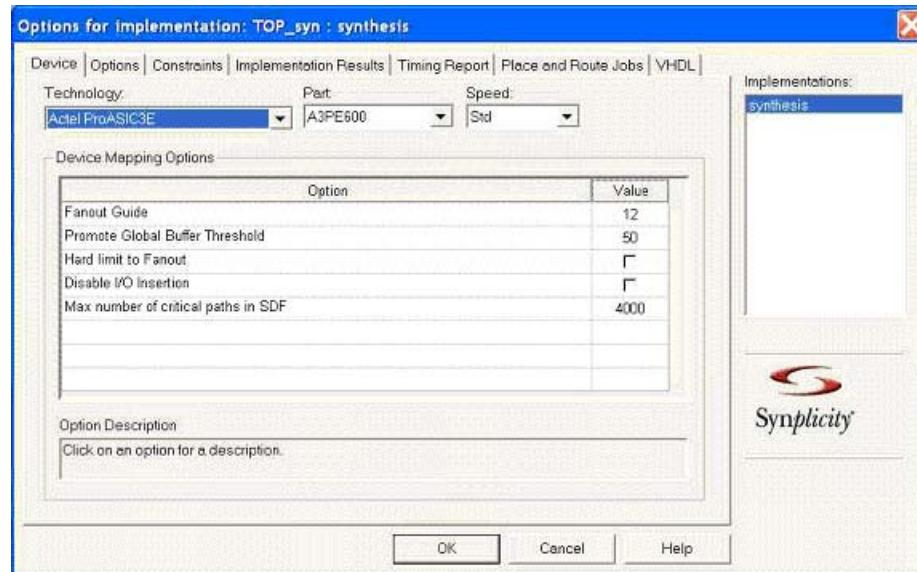
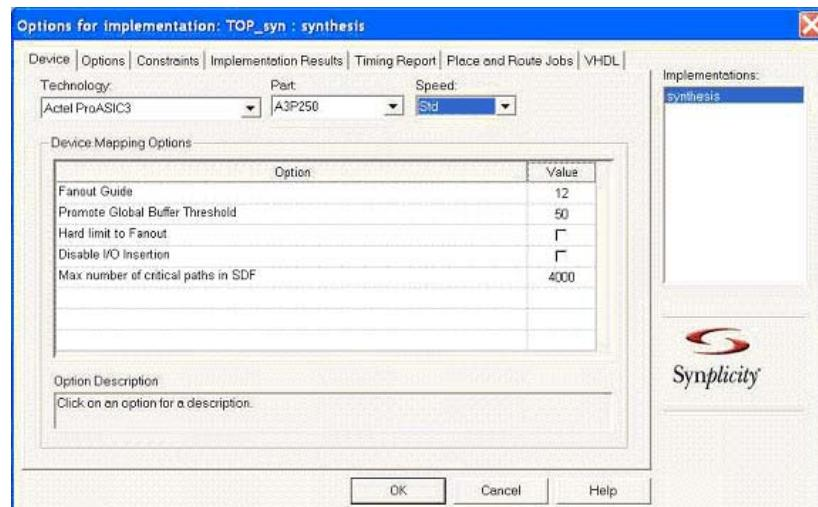

Figure 7-26 • Options for Implementation Dialog Box-A3PE600
Figure 7-27 • Options for Implementation Dialog Box-A3P250
2. From the **Project** menu, select **Implementation Options**. This displays the Options for the Implementation dialog box, as shown in Figure 7-26 for A3PE600 and Figure 7-27 for A3P250.